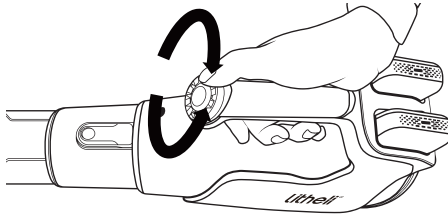

Fig. 6
- a. Switch on the blower. Turn the variable speed control dial left or right to adjust the blower speed as necessary. (Fig. 6)